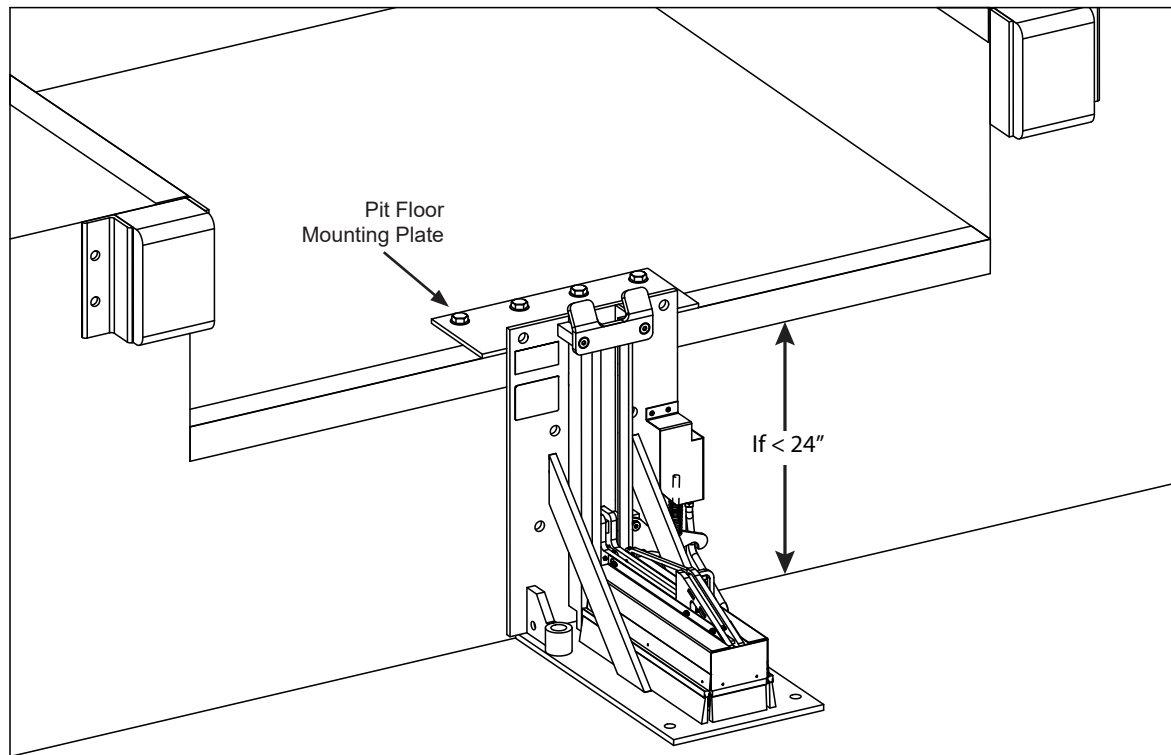
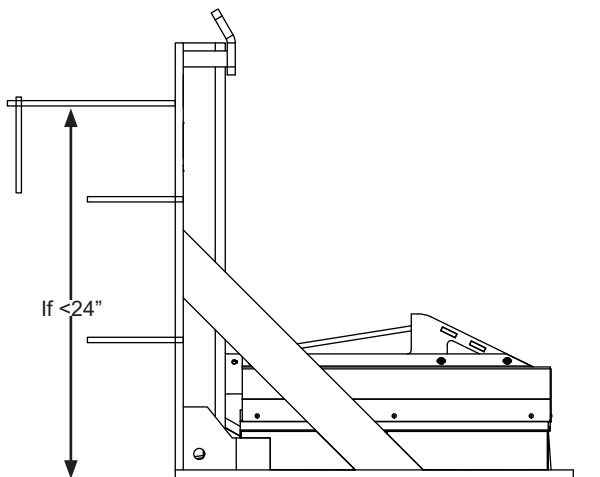

Figure 10
Figure 11
Anchor pit floor mounting plate (minimum 3/8" x 20"W x 8"D, Part #9414-0056, Figure 10) with four (4) 3/4" x 5-1/4" min. wedge anchors. Weld mounting plate to curb steel and back plate of Stop-Tite with a continuous 1/4" fillet weld. Anchor back plate of Stop-Tite to dock face with a minimum of four (4) 3/4" x 5-1/4" min. wedge anchors (Kit #2103-0003). See Figure 11.